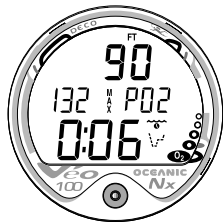

Fig. 27 - OXYGEN IN CONTROL
- If the O₂BG and O₂ symbol are displayed (Fig. 27), it is calculated to be controlled by oxygen loading.